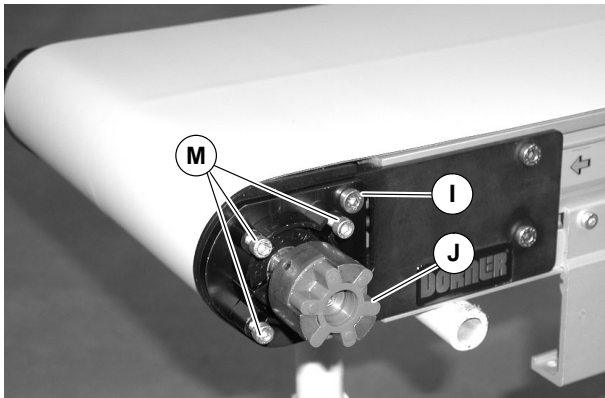

Figure 23
- b. Remove the four (4) screws (M of Figure 23) and two (2) screws (I and J)